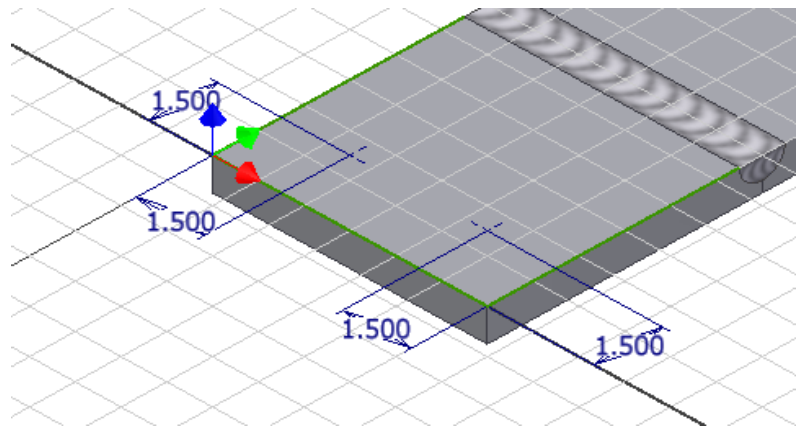

Figure Step 4
Step 4 Insert two center points onto the sketch and dimension them. (Figure Step 4)